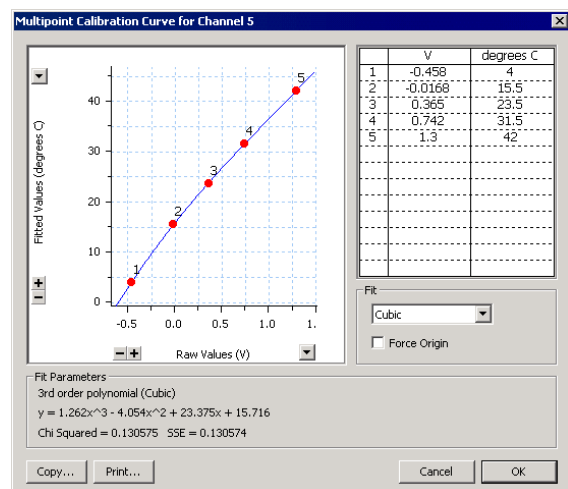

Figure 5. The Multipoint Calibration Curve.
6. Click the Fit... button to show the Multipoint Calibration curve (Figure 5).
As each function is chosen, the corresponding equation is shown in the lower left of the Multipoint Calibration Curve dialog box (Figure 5). Chi Squared and SSE (sum of squared errors) values for the fit are also displayed. SSE is a measure of 'lack of fit'. The smaller the value the better your data is fitted by the function: a